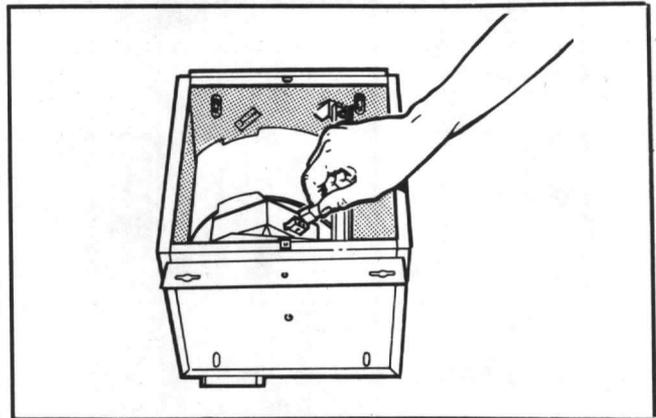

Figure 12
b.) Unplug electrical connector from blower. Do not pull on plug wires. (Fig. 12)